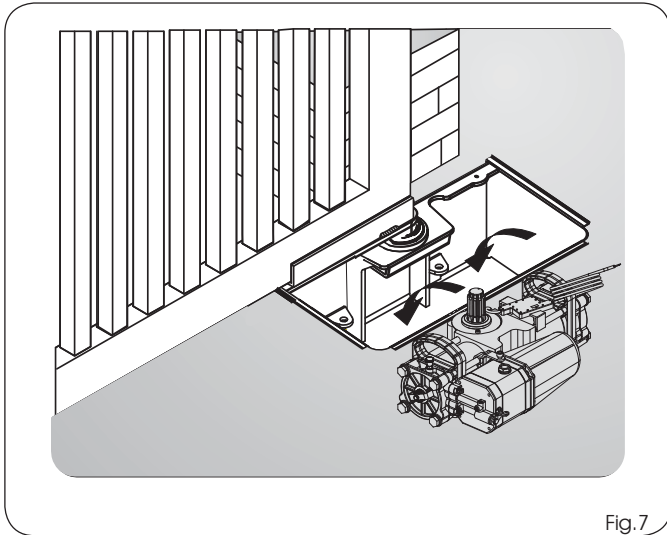
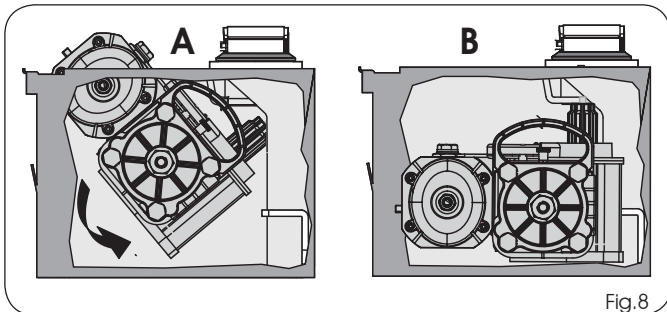

Fig.7
Fig.8
- 8) Using the specific handles, insert the operator in the support box figure 7, and position it as shown in figure 8 A, B.